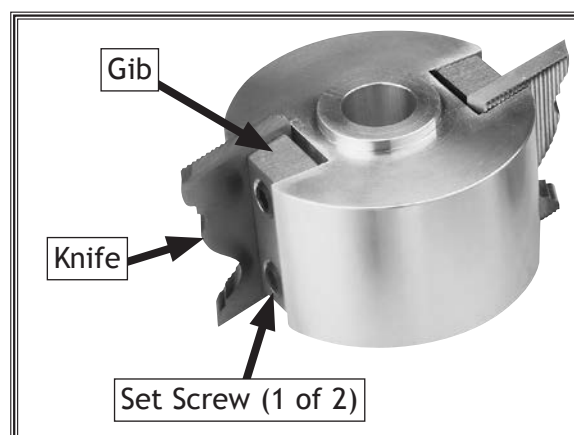

Figure 2. Knife installed in moulding head.
1. Thread (2) included  $\frac{3}{8}$ "-16 x  $\frac{1}{2}$ " set screws into gib (see Figure 2) so set ends of screws are flush with bottom of gib.